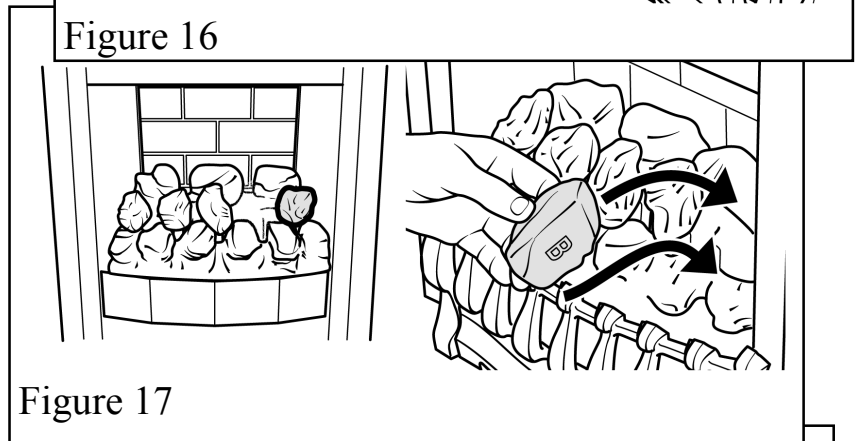

Figure 17
9. Place the remaining type "B" coal at the right side of the firebox between the front and rear base coals. The letter "B" should be upright. The coal should touch the right side of the firebox. See figure 17.